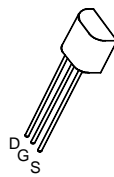

Figure 4: Pin out for pFET and nFET transistors
The transistors we will be using come in small plastic packages with three wire leads (see figure 4). The actual transistor is enclosed in plastic to protect it from the environment (and your hands). The leads make connection to the source (S), gate (G), and drain (D) terminals of the transistor. The body (or bulk) of the transistor is internally connected to the source terminal. This built-in connection is convenient for most logic circuits. However, as we shall see later, it limits their use. The illustration below shows you the transistor pinout. It is the same for both the nFET and pFET. Remember that the source and drain terminals are different from one another with these devices and you need to wire them up correctly for your circuits to function.